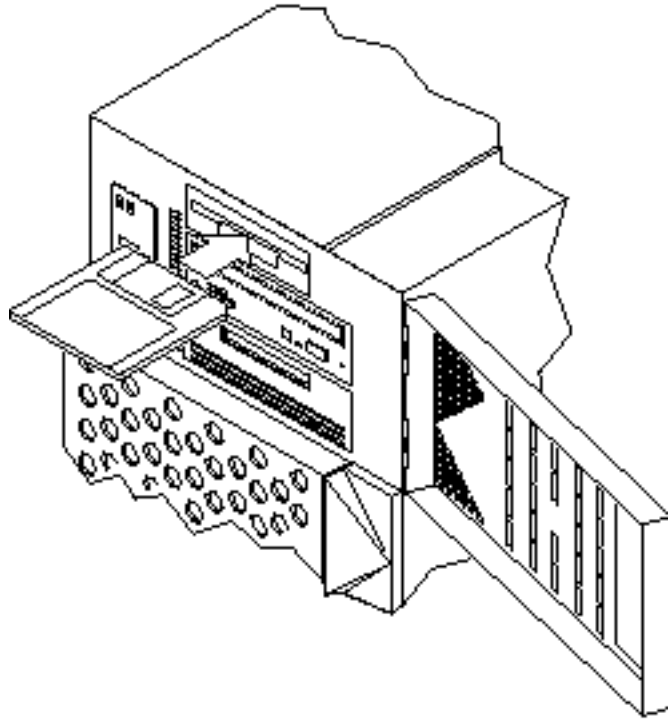

Figure 1-19 Inserting the Configuration Diskette
- a. Insert a blank diskette into the diskette drive at the front of the Netra 150 server (Figure 1-19).